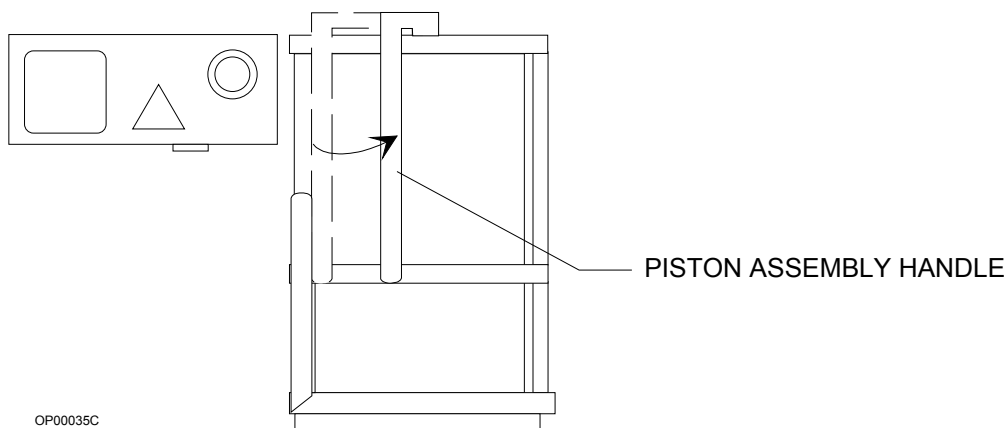

Figure 10-3. Location of Piston Assembly Handle
5. Raise the piston assembly handle to its up position and lift the assembly out. See Figure 10-3.